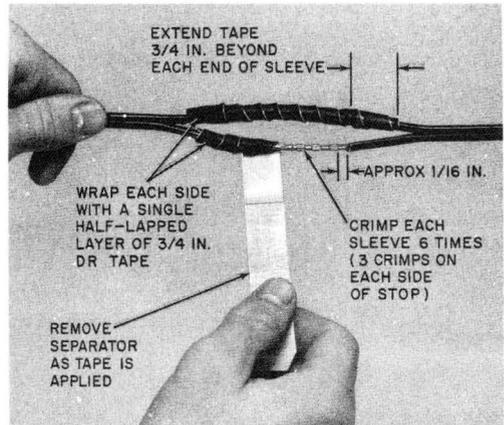

Fig. 6—Applying DR Tape After Crimping Sleeves
BACK OF OBSTRUCTION (FIG. 6)	O
- (7) Crimp each sleeve six times (approximately 1/16 inch intervals) and apply DR tape as shown in Fig. 6.